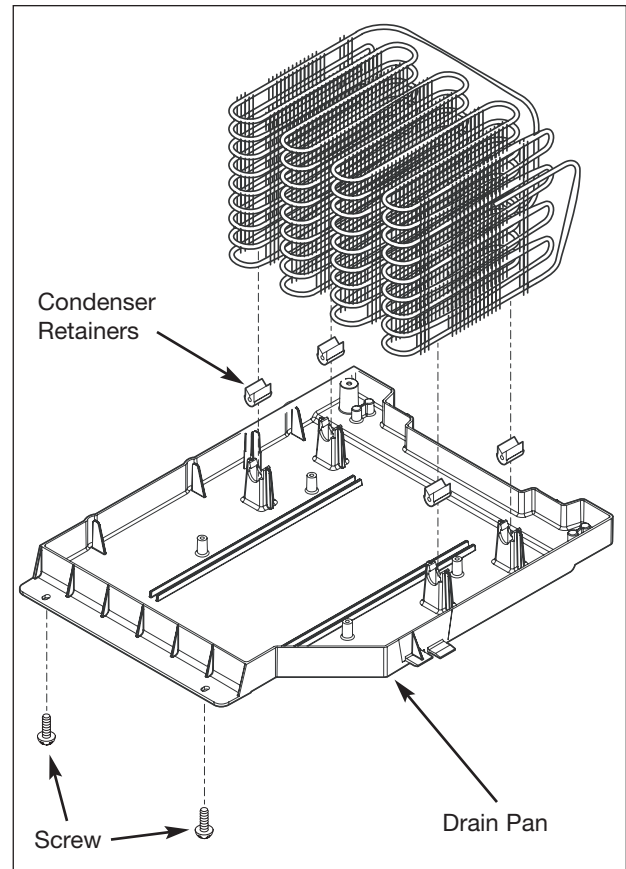

Figure 5-29. Drain Pan Removal
2. Using a short phillips head screwdriver, extract the four screws securing the drain pan to the bottom of the unit frame. (See Figure 5-29)